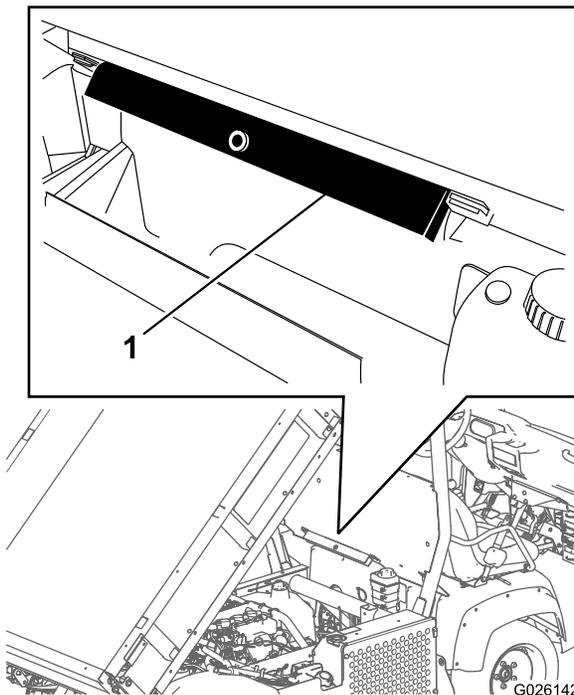

Figure 31
2. Remove the bed support from the storage brackets on the back of the ROPS panel (Figure 31).